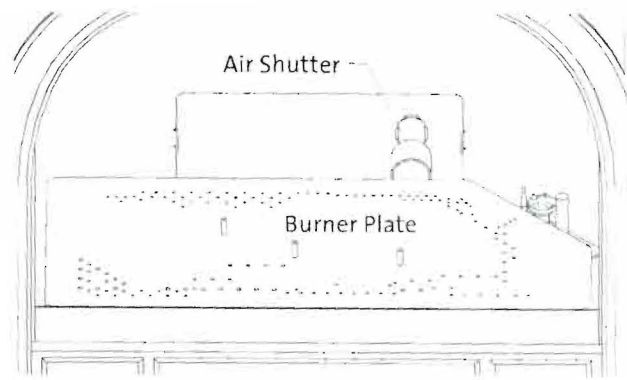
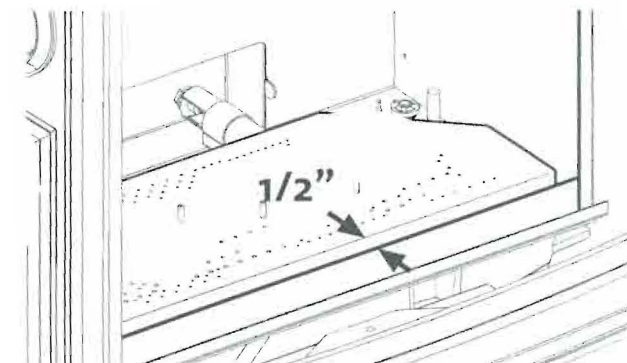

Figure 13. Remove the Air Shutter and Burner as a unit.
Figure 15. Correct Burner Position - maintain 1/2 inch clearance between burner and firebox front.
7. Lift out the Burner Plate: **NOTE:** There are no screws securing the Burner to the floor of the firebox. Pull the Air Shutter forward and lift the burner together with shutter up and out of the stove as a unit. See fig. 13.
10. Replace the Burner Plate. Engage the burner tube with the Air Shutter assembly as in fig. 13. Be sure the burner is securely engaged with the two support brackets at the front of the firebox and push the plate back toward the rear of the firebox. When correctly positioned, there will be 1/2" (13 mm) clearance between the burner plate and the front of the firebox. See fig. 15.